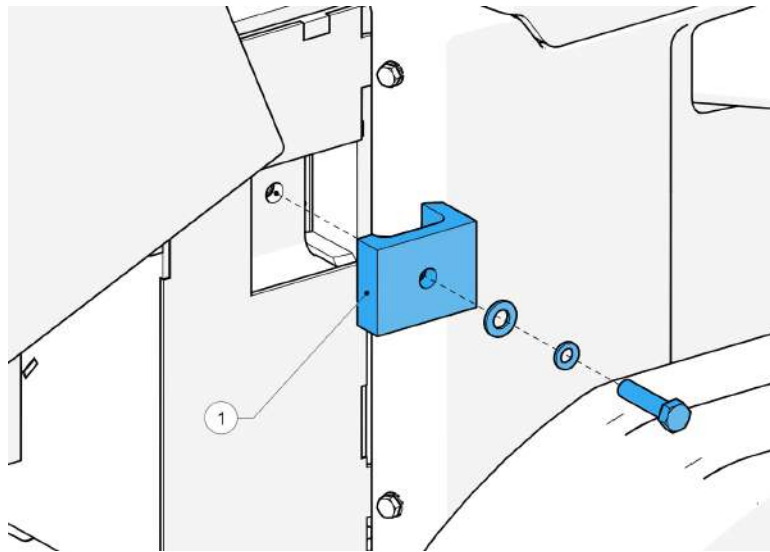

Figure 61 - Anvil clamp position
4. Locate the anvil clamp (1, Figure 61).